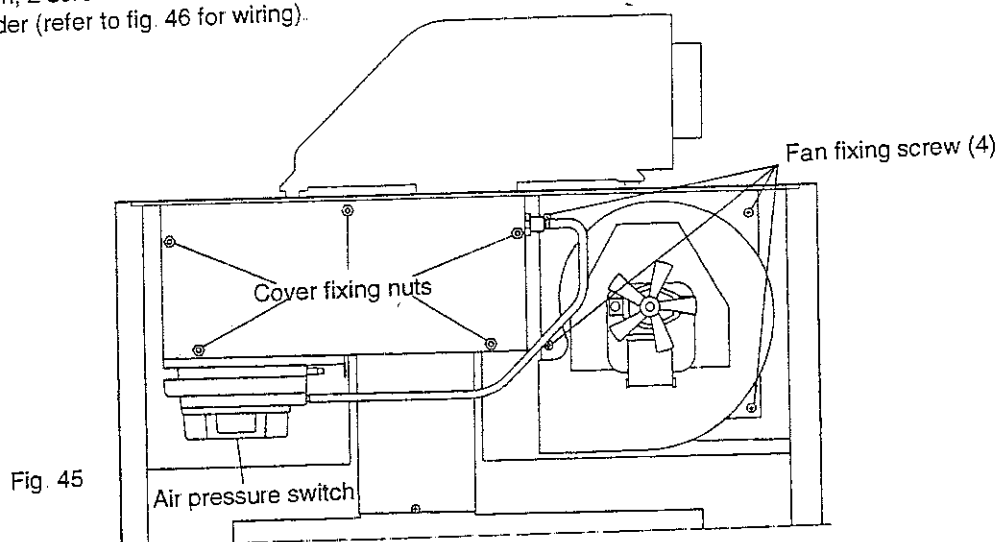

Fig. 45
- Remove the five screws securing the air collection plate (fig. 45), and withdraw the plate complete with the air pressure switch (Take care not to lose «P» clip).